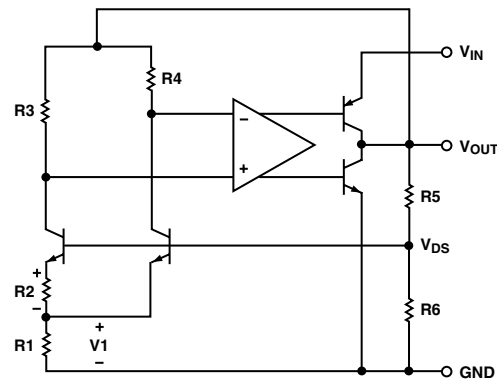

Figure 1. Simplified Schematic
The ADR370 uses the band-gap concept to produce a stable, low temperature coefficient voltage reference suitable for high accuracy data acquisition components and systems. This device makes use of underlying temperature characteristics of a silicon transistor's base-emitter voltage (V_{BE}) in the forward biased operating region. Under this condition, all such transistors have a $-2 \text{ mV}/^\circ\text{C}$ temperature coefficient (TC) and a V_{BE} that, when extrapolated to absolute zero, 0 K, (with collector current proportional to absolute temperature) approximates the silicon band-gap voltage. By summing a voltage that has an equal and opposite temperature coefficient of $2 \text{ mV}/^\circ\text{C}$ with a V_{BE} of a forward biased transistor, an almost zero TC reference can be developed. The simplified circuit diagram in Figure 1 shows how a compensating voltage, V_1 , is achieved by driving two transistors at different current densities and amplifying the resultant V_{BE} difference (ΔV_{BE} , which has a positive TC). The sum (V_{BG}) of V_{BE} and V_1 is then buffered and amplified to produce a stable reference voltage of 2.048 V at the output.